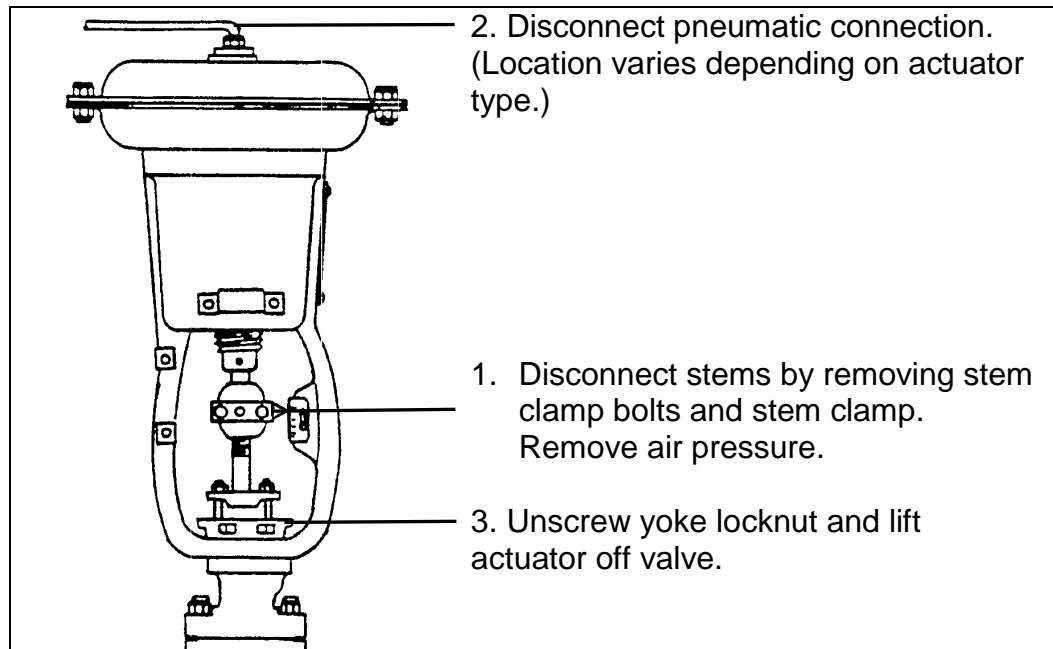

Figure 3: Actuator Removal (Type 01 Pneumatic Actuators)
- Remove actuator from valve. See Figures 3, 4 and 5 for actuator removal.